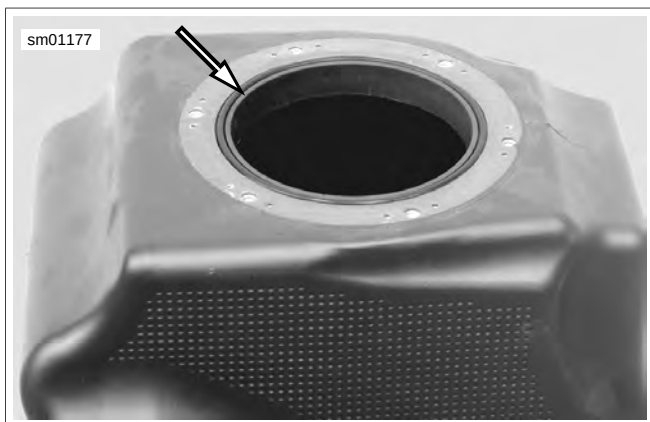

Figure 4-23. Fuel Tank O-ring (typical)
- See Figure 4-23. Install **new** fuel tank top plate O-ring onto shoulder of tank opening.